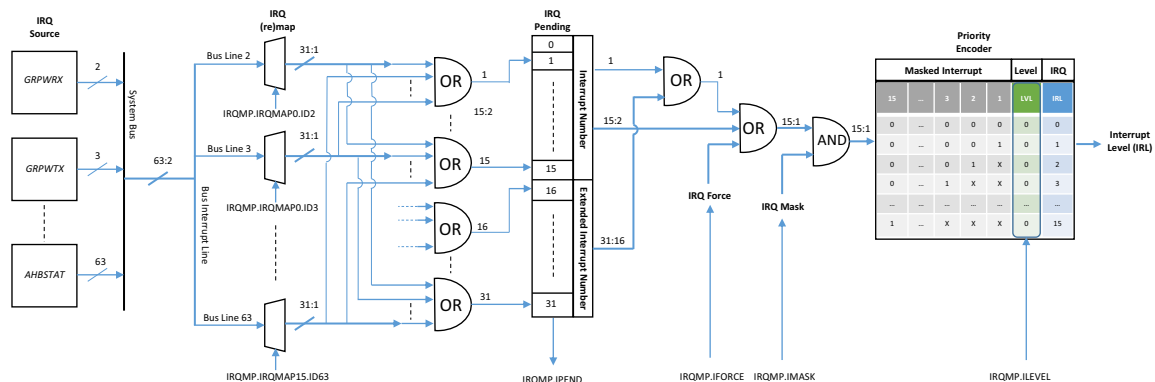

Figure 92. System and Interrupt controller block diagram
*Extended interrupt number* 16 - 32 are grouped and OR:ed into *Interrupt number* 1 depict in figure 92. *Extended interrupt number* 16 - 32 has no level control and have no prioritization between individual interrupts.